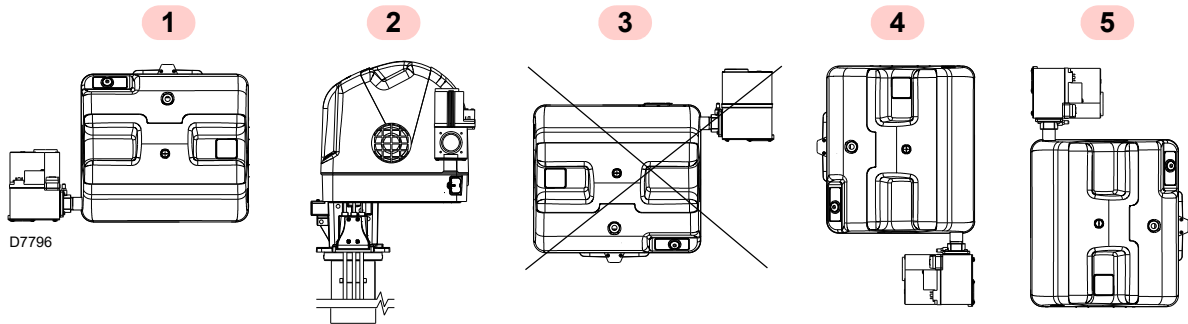

Fig. 11
- The burner is designed to operate only in positions **1**, **2**, **4** and **5** (Fig. 11).
- All the positions require the installation of the gas valve with coils facing upwards or horizontally (Fig. 11).